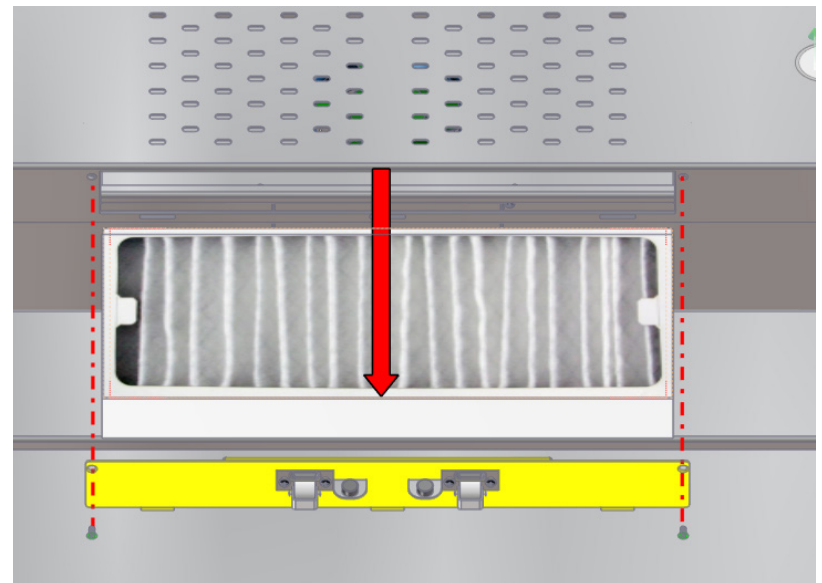

Fig. 10: Remove HEPA Filter
3. Remove the Filter Access Panel assembly from the air vent panel (Fig. 10).
4. Remove the HEPA filter from the recessed filter box (Fig. 10).